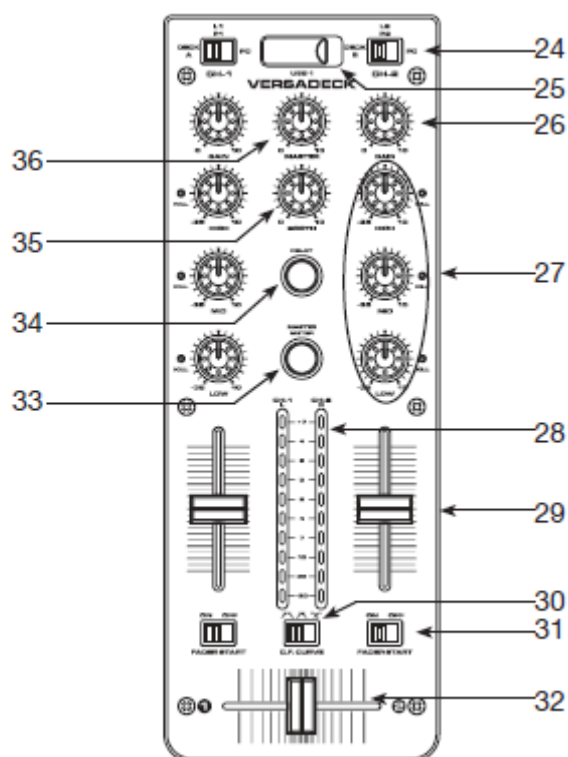

Figure 3
B. COMMANDES DE LA TABLE DE MIXAGE DU DESSUS (FIGURE 3)